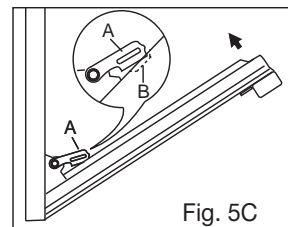

Fig. 5C
- 3 shut the oven door slowly until it reaches hooks "A", making sure these are locked into slots "B" of the oven door, as shown in fig. 5C.
- 3 shut the oven door slowly until it reaches hooks "A", making sure that hinges are locked into slots "B" of the oven door, as shown in fig. 5C.
- 3 shut the oven door slowly until it reaches hooks "A", making sure these are locked into slots "B" of the oven door, as shown in fig. 5C. Remove the glass Fig. 5A (only for models where present).